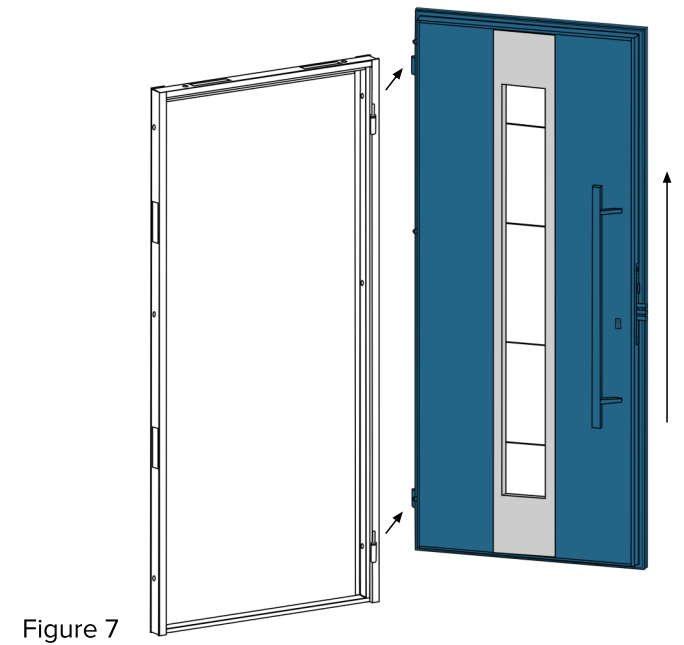

Figure 7
3.1. Remove the door leaf from the frame (figure 7).